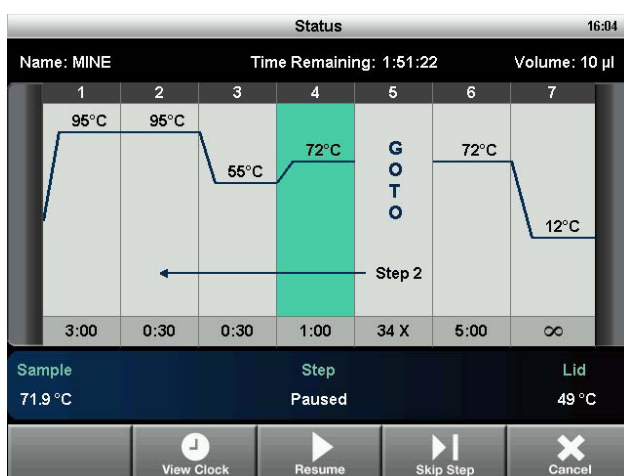

Fig. 19. The running protocol is paused at step 4.
2. To resume the protocol, touch **Resume** (Figure 19).